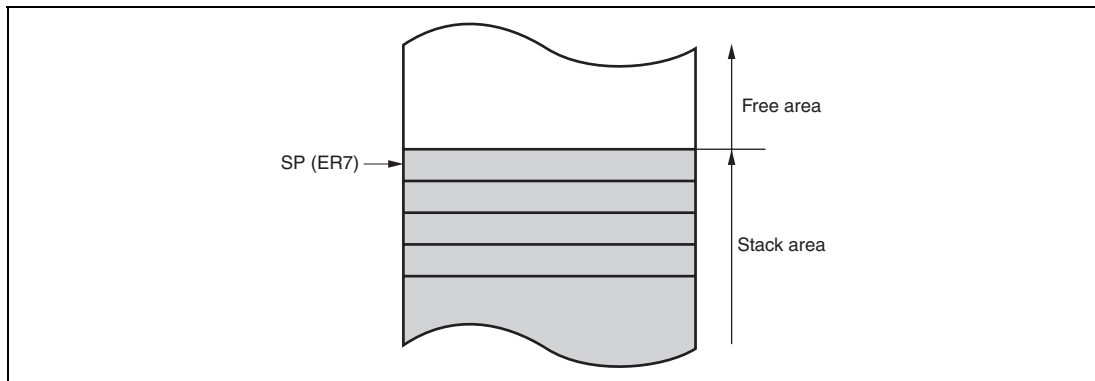

Figure 2.4 Relationship between Stack Pointer and Stack Area
General register ER7 has the function of stack pointer (SP) in addition to its general-register function, and is used implicitly in exception handling and subroutine calls. Figure 2.4 shows the stack.